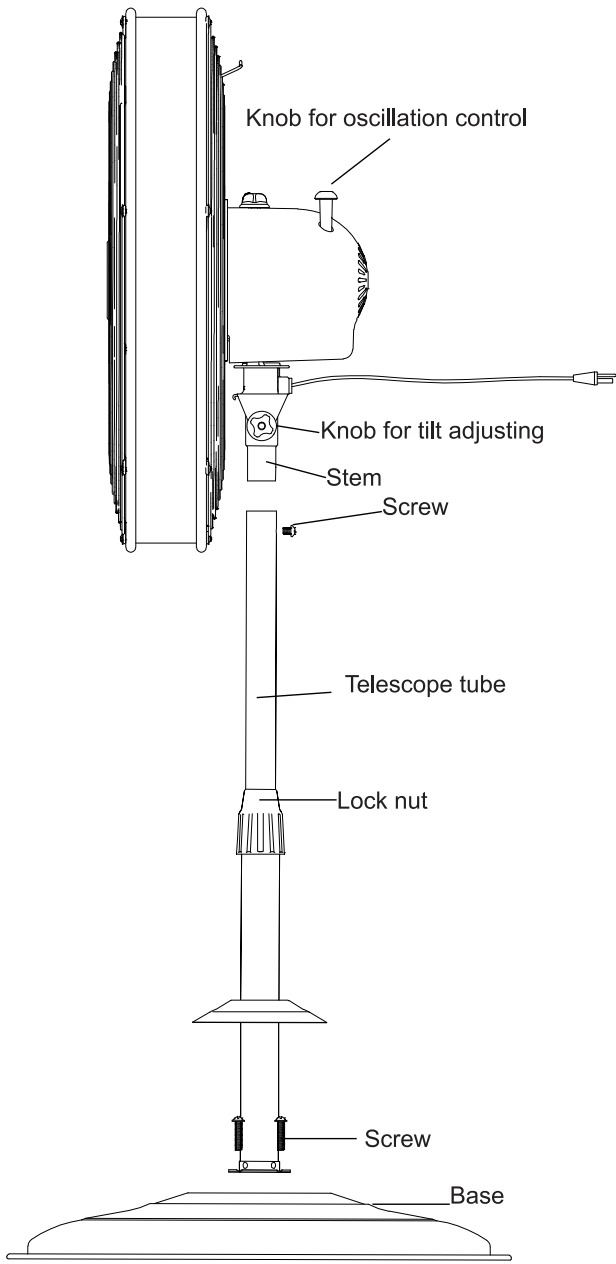

Fig.1
1. Put the telescope tube on the base top surface, align its four holes with those four holes on the base, use four M6 screws (provided) and tighten them firmly together (see Fig. 1).
2. Take the fan head and insert its stem into the telescope tube, turn the fan head to align the hole in its stem with the hole in the telescope tube, then tighten them together using a M5 screw (Fig.1).
To allow the fan to oscillate, push the knob down on the motor housing. Pull up the knob if oscillation is not desired (Fig.1).
To adjust the tilt angle of the fan head, loosen the screw knob under the motor (Fig.1), then turn the fan head up or down to desired angle, and then re-tighten the screw knob to secure the fan at that angle.
To adjust the height of the fan, loosen the lock nut first, take the telescope tube up or down to desired height, then re-tighten the lock nut at that position (Fig.1).